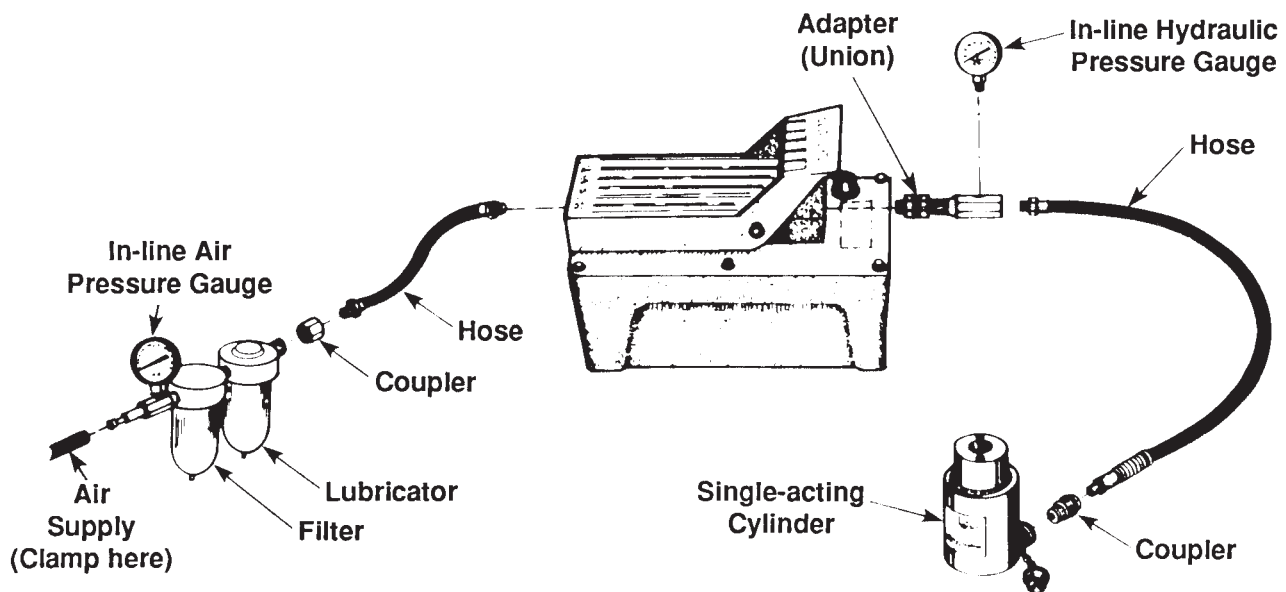

Figure 2
1. Remove the thread protector from the air inlet of the pump. Select and install the thread fittings which are compatible with your supply fittings. **Note: Seal all hydraulic connections with Power Team HTS6 thread sealant. PTFE tape can be used if only one layer of tape is applied carefully, two threads back, to prevent tape from being pinched and broken off inside the pipe. Loose pieces of tape could travel through the system and obstruct the flow of oil.** The air supply should be 20 CFM and 100 PSI to obtain the rated hydraulic output. Air pressure should be regulated to a maximum of 125 PSI. Secure your pump fitting to the air supply. See Figure 2.
1. Remove the male fitting from the air filter and install a tee adapter, with gauge, between the hose and air filter. See Figure 2.
2. Install a tee adapter, with gauge, between the hose coupling and the pump hydraulic outlet port. See Figure 2.